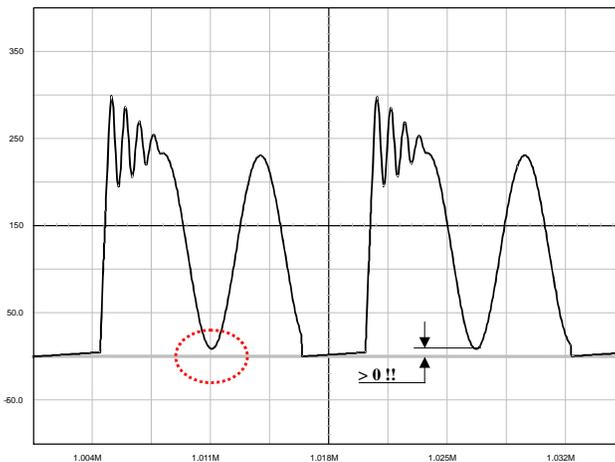

Figure 38. The Drain-Source Wave Shall Always be Positive
1. The lateral MOSFET body-diode shall never be forward biased, either during start-up (because of a large leakage inductance) or in normal operation as shown by Figure 38. This condition sets the
Figure 40a: the simple capacitor limits the voltage according to The lateral MOSFET body–diode shall never be forward biased, either during start–up (because of a large leakage inductance) or in normal operation as shown by Figure 38. This condition sets the maximum voltage that can be reflected during t_{off} . As a result, the Flyback voltage which is reflected on the drain at the switch opening cannot be larger than the input voltage. When selecting components, you thus must adopt a turn ratio which adheres to the following equation: Equation 3. This option is only valid for low power applications, e.g. below 5 W, otherwise chances exist to destroy the MOSFET. After evaluating the leakage inductance, you can compute C with Equation 4. Typical values are between 100 pF and up to 470 pF. Large capacitors increase capacitive losses...